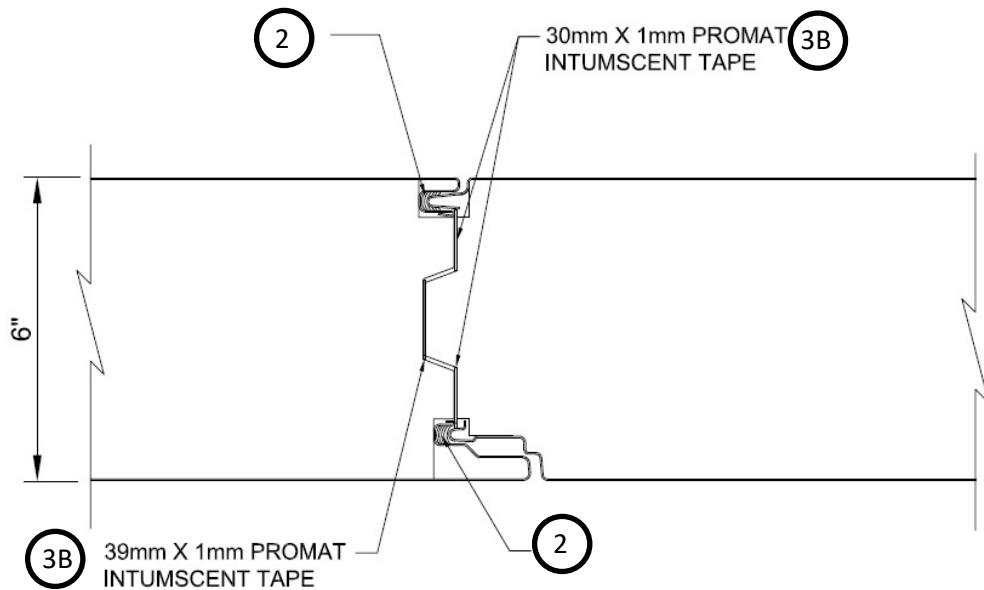

Figure 5: Interlocking Joint W/Promat Tape
- B. Option 2: Refer to **Figure 5**. Use Promat Promaseal®-LW intumescent tape with specified widths and locations.